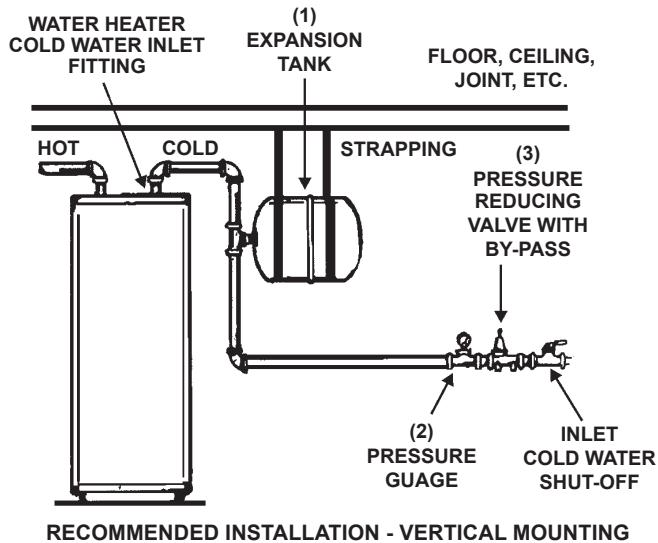

FIGURE 2.
- The expansion tank is designed to be supported by the system piping in the vertical position. If, however, the expansion tank must be installed horizontally, as shown in Figure 2, it must be supported by adequate strapping (not supplied).